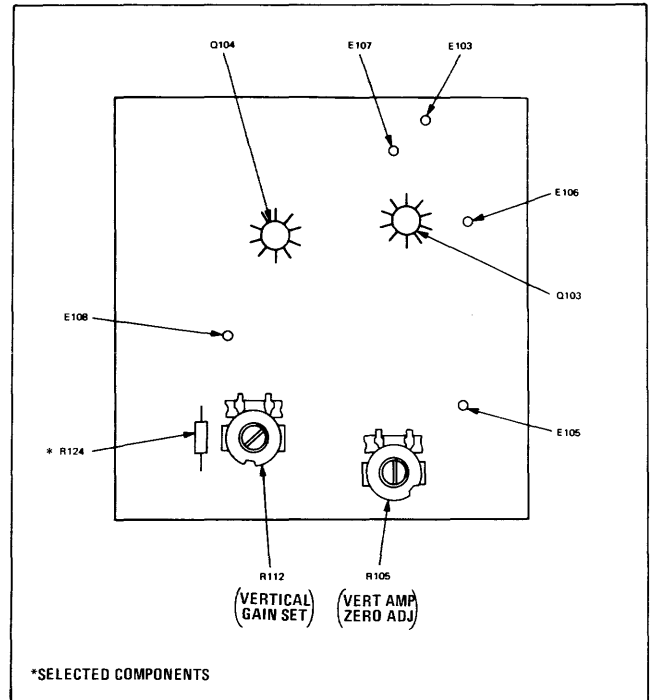

Figure 2-2. Trimmer Locations, Vertical Amplifier Assembly, A3
- b. Connect the VOM between pins A3E103 and A3E104 (See Figure 2-2).